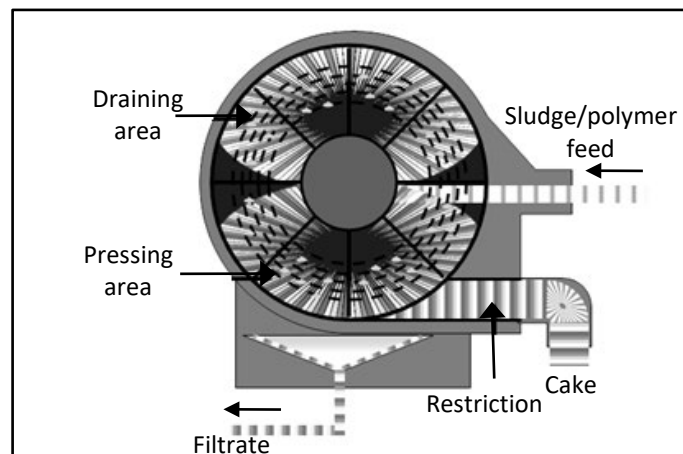

Figure 4-14. Rotary press.
- ❑ **Rotary Press.** The rotary press dewateres by filtration and squeezing through rotating screens (Figure 4-14). The residuals are dosed with polymer and fed into a channel formed by the rotating screens. Free water passes through the screens, which move in continuous but slow, concentric motion. The motion of the screens creates a “gripping” effect towards the end of the channel, where cake accumulates against the outlet gate, and the motion of the screens squeezes out additional water. The cake is continuously released through the pressure-controlled outlet.